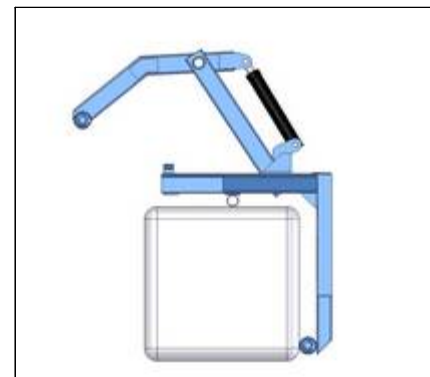

Figure 2 Stacker approaching the bale
- Retract the hydraulic cylinder to open the bale stacker fully and approach the bale until it strikes the buffer bar. Then extend the hydraulic cylinder until the bale is securely clamped. See Figures 2 and 3 for more information.